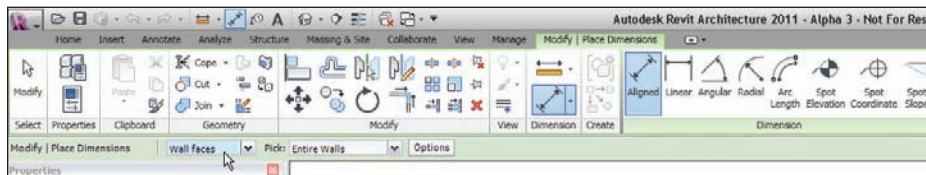

FIGURE 5.2 The Options bar for the Dimension command. Notice the Options button at the far right.
4. On the Options bar, you will see a drop-down menu with some choices, as shown in Figure 5.2. Make sure that you have Wall Faces selected.
5. The next menu lets you pick individual references or entire walls. Select Entire Walls from the menu, as shown in Figure 5.2.